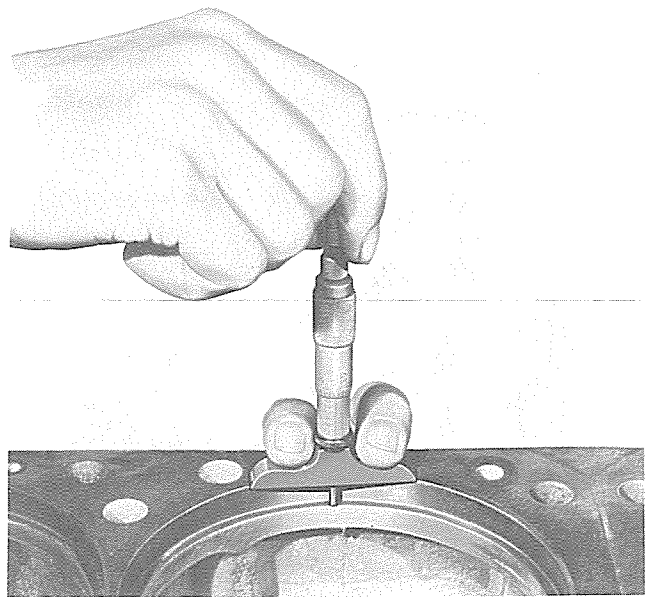
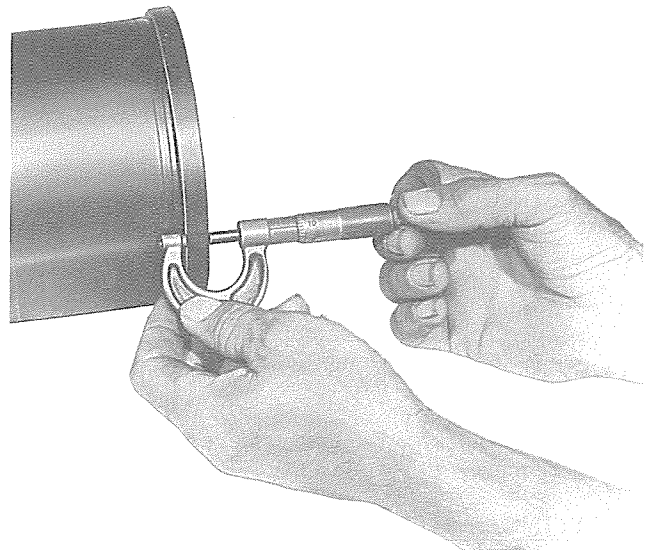
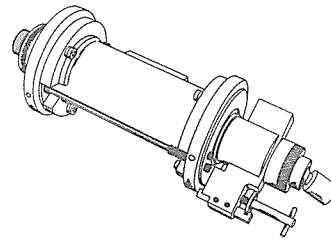

Fig. 7 — Measuring Depth of Cylinder Sleeve Counterbore
Fig. 8 — Measuring Width of Cylinder Sleeve Flange
Fig. 10 – Cylinder Sleeve Reseating Tool
- a. Using a depth micrometer, as shown in Fig. 7 measure depth of cylinder sleeve counterbore in the cylinder block (measure at two or more locations). The specified depth is .3125" - .3135".
b. Using an outside micrometer, as shown in Fig. 8, measure thickness of cylinder sleeve flange (measure at two or more locations). The specified flange thickness on sleeves used in early model engines is .320"-.322" and on late model engines the specified thickness is .3155"-.3175".
Use of a cylinder sleeve reseating tool similar to the one shown in Fig. 10 is recommended. Cylinder sleeve shims are available in .005", .008", .010", .015" and .020" thicknesses to re-establish the specified cylinder sleeve standout. After using the reseating tool, determine the thickness of the shim required by measuring the depth of the counterbore with a depth micrometer, Fig. 7, and the thickness of the cylinder sleeve flange with an outside micrometer, Fig. 8.